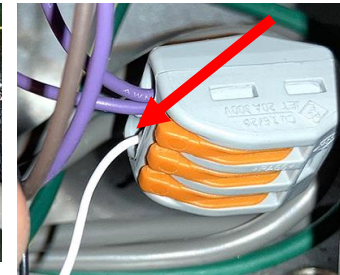

Figure 8
7. Disconnect the white & black wires from the harness in the previous step from the Wago snap connectors (see Figure 8 & 9).